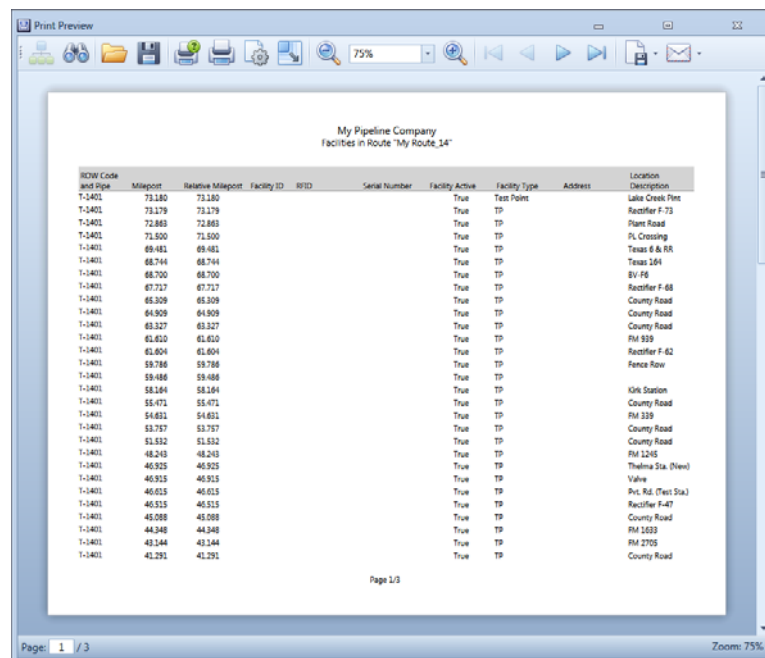

Figure 8-54. Print Preview
Selected facilities are those included in the route. These facilities are also listed in the *Facilities in Route* grid of the *Define Routes* window (Figure 8-54, page 411). Available facilities are linked to the current ROW selection, but are *not* included in the route. Available facilities are listed in the *Facilities Available* grid of the *Define Routes* window.
- To view selected facilities in a *Print Preview* window (Figure 8-54), click the  **Selected Facilities** button in the *Facilities in Route* grid.